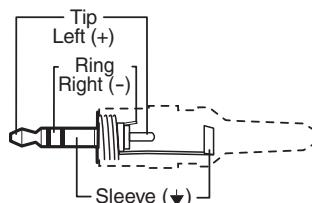

Figure 6. Audio Input Connector Wiring
- Ⓑ **Audio input** — Connect an unbalanced stereo audio source to this 3.5 mm mini stereo jack. Figure 6 shows how to wire the audio plug.